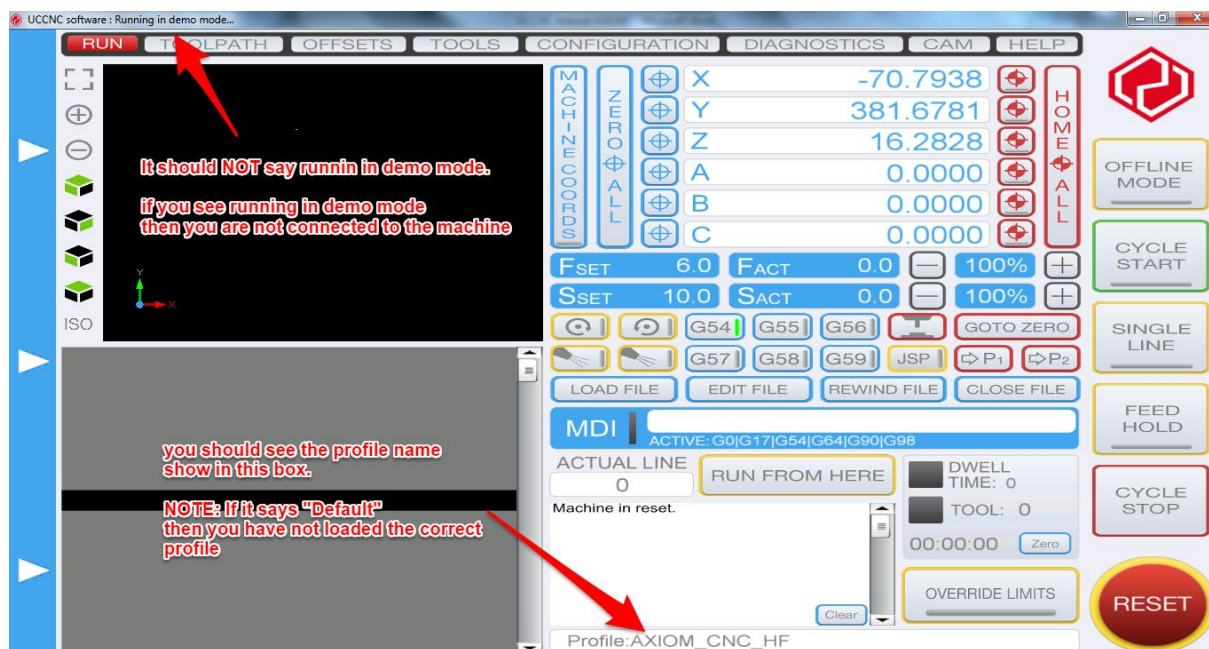

Figure 23: UCCNC main screen summary
- Figure 23 shows the main screen once you open the UCCNC controller.